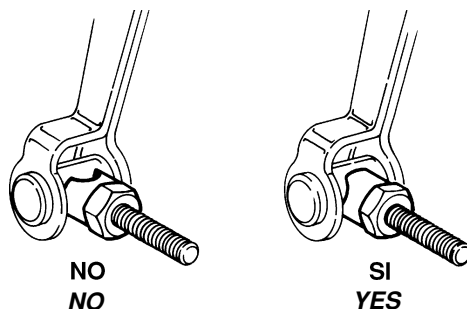

Fig. 39
**WARNING!** Check the correct position of the adjuster after the adjustment as shown in fig. 39.